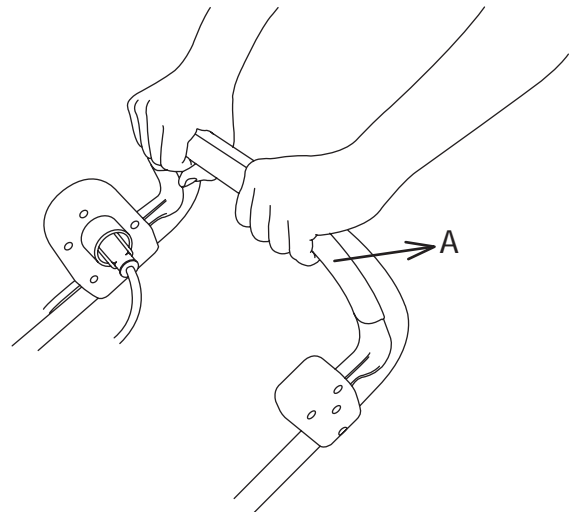

Figure 21
2. Pull the handle bar toward you and grasp hold of it firmly with both hands to start the machine (Fig. 21). The machine can only be started by pressing the switch button first, followed by squeezing the handle bar. Reverse operation cannot start the machine.